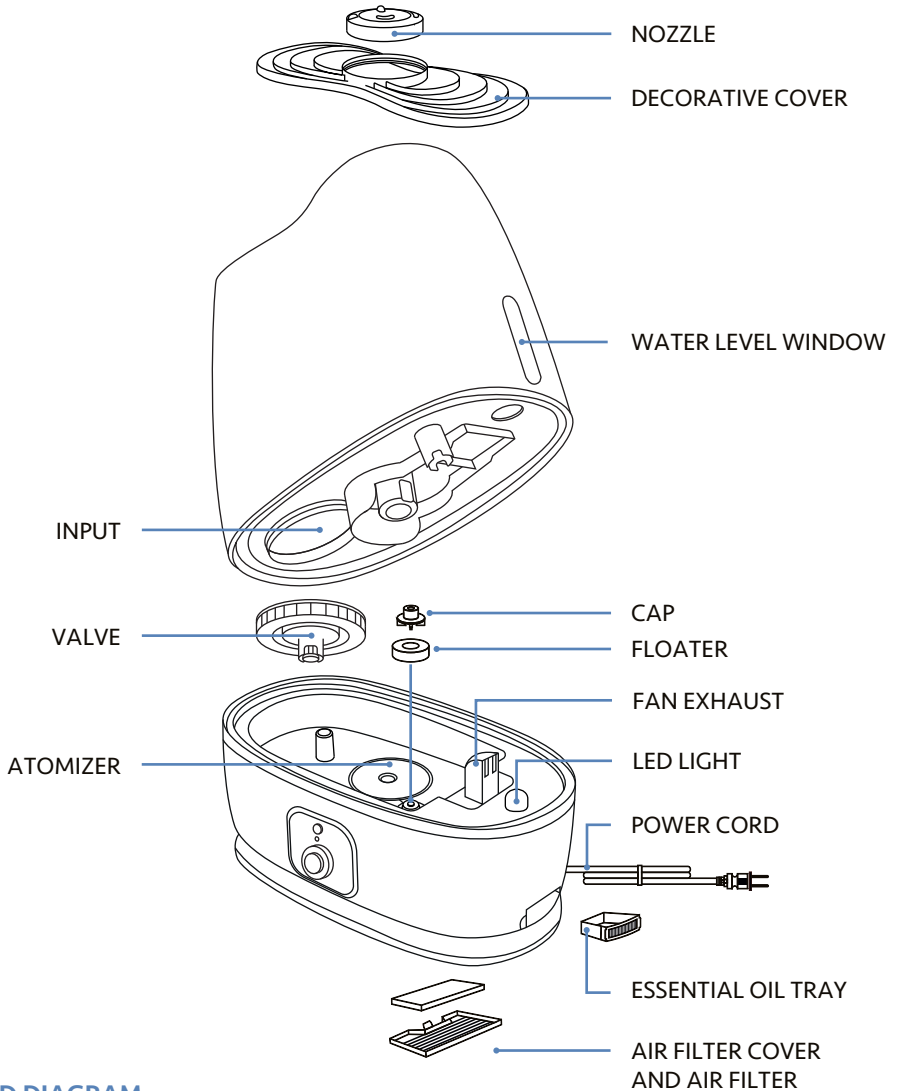

Fig. 3
- 9 Do not add any chemical agents to the base or water tank. Do not add essential oils to the base or water tank. Only add essential oils to the specified essential oil tray as outlined in this manual. (See Fig. 3 Exploded Diagram)